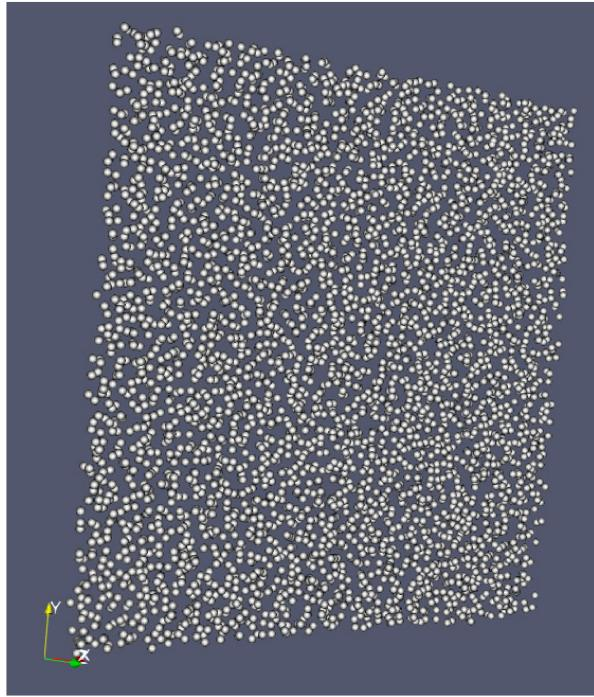

Fig. 17.3: : Particle image generated with ParaView
4. Change the Gaussian Radius if you like. You can scroll through the frames with the VCR-like controls at the top, as shown in Fig. 17.3.